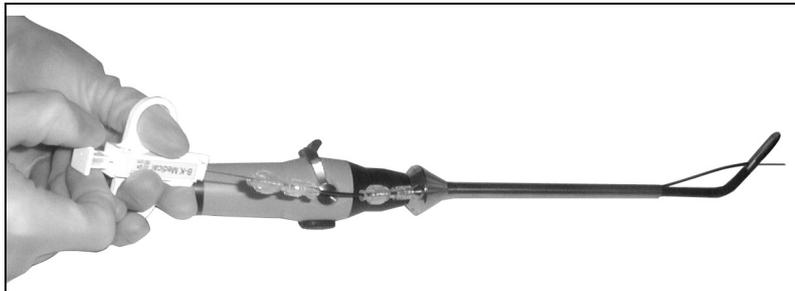

Fig. 19. Preparing the UA0034 flexible biopsy system for firing
6. "Cock" the flexible needle: this is done by drawing the needle plunger all the way back until it has "clicked", see Fig. 19. The spring within the handle is now compressed and ready to fire when the biopsy is taken.